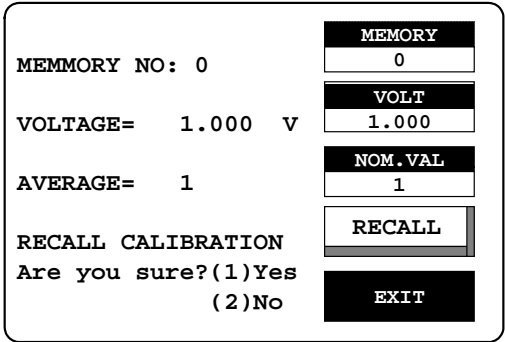

Figure 7-4
- Press compound Key 1 to select the “Yes” to start recall calibration. (Figure 7-4)
- Press compound Key 2 to select the “No” to stop recall calibration. (Figure 7-4)